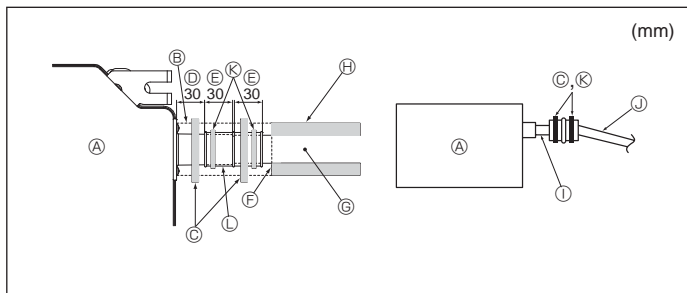

Fig. 3-5
- ① O.D. $\phi 38$ PVC TUBE for grouped piping. (9 mm or more insulation)
1. Connect the drain socket (supplied with the unit) to the drain port. (Fig. 3-5) (Affix the tube using PVC adhesive then secure it with a band.)